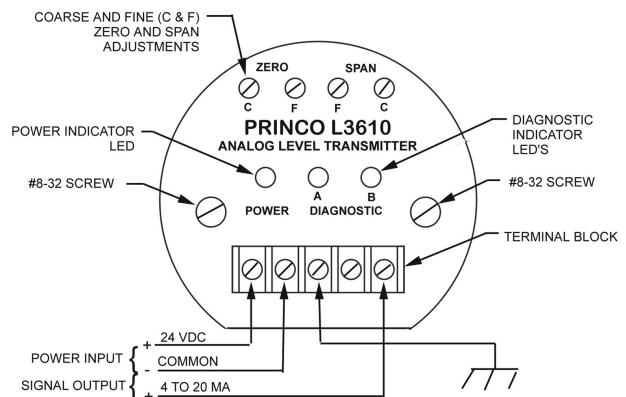
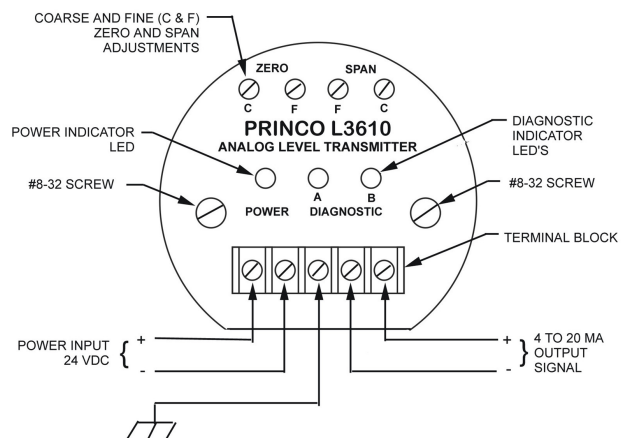
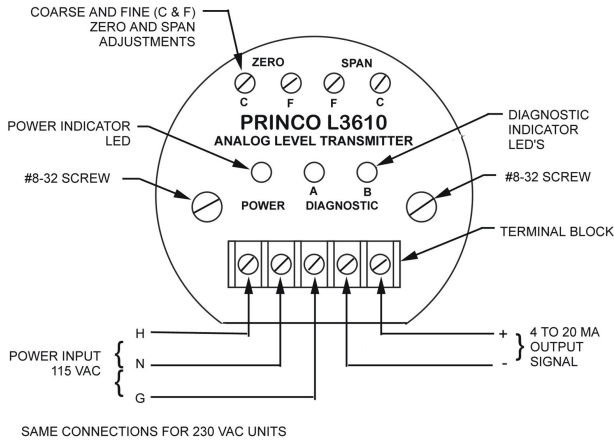

Figure 3-2:
Figure 3-3:
Figure 3-4:
Connect the power and signal wires to the terminal strip as according to the appropriate wiring diagram: Figure 3-2 for 24 Vdc, 3-wire; Figure 3-3 for 24 Vdc, 4-wire; and figure 3-4 for 115 Vac and 230 Vac. Make certain wires are installed with correct polarity orientation.
7. Adjustments are now complete. Remove current meter from the signal loop, and replace the loop back to the original configuration (see Figure 3-2, 3-3, 3-4 or 3-5). Screw gasketed lid of equipment on electronic housing until it is firmly seated.